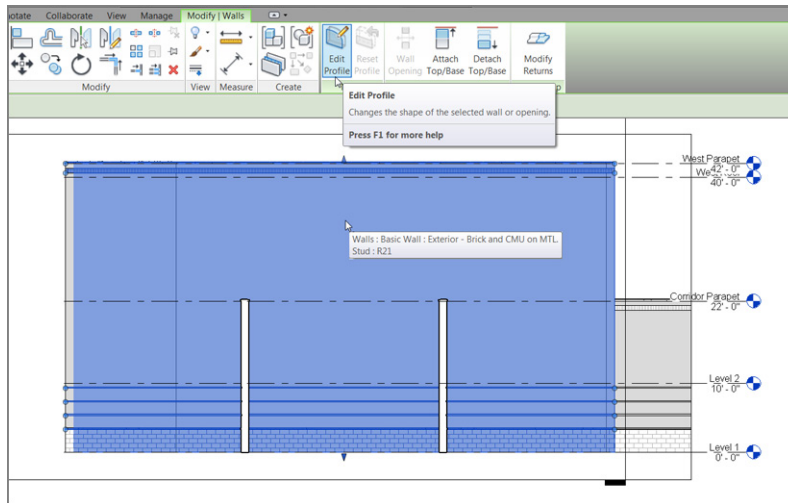

FIGURE 4.36: Select the wall beyond, and click the Edit Profile button on the Modify | Walls tab.
2. Select the wall beyond, as shown in Figure 4.36.
3. On the Modify | Walls tab, click the Edit Profile button (see Figure 4.36).